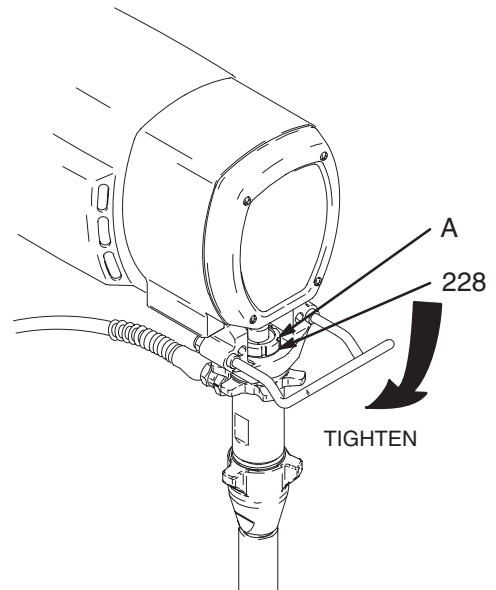

Fig. 6
1. Check packing nut (A) daily. First relieve pressure. Keep packing nut full of TSL at all times to help prevent fluid buildup on piston rod and premature wear of packings.
If pump begins to leak, loosen packing nut and remove throat nut spacer (228). Tighten packing nut just snug. Over tightening causes binding and excessive packing wear. Use a round punch or brass rod and light hammer to adjust nut. Refer to Fig. 6. When leakage occurs again, repack the pump.